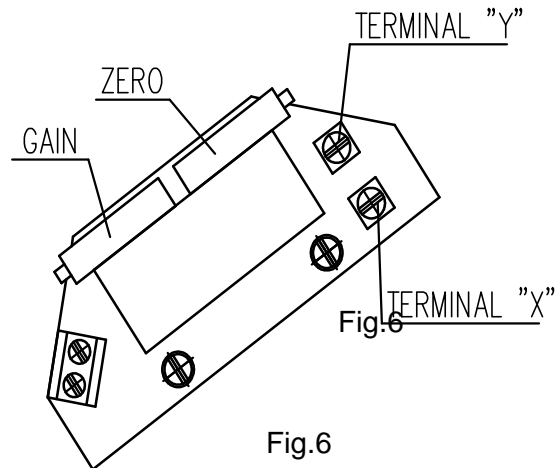

Fig.6
EPV – the 2-wire version (Fig. 6,6a)
- Adjust the resistive transmitter according to the previous chapter. The resistance is to be metered on the terminals X-Y (Fig. 6,6a). The used transmitter resistance is 100 Ω.
- Turn the adjusting trimmer ZERO (Fig. 6,6a) to adjust the output current signal rate measured on the terminals 81-82 to 4mA.
- Turn the adjusting trimmer GAIN (Fig. 6,6a) to adjust the output current signal rate measured on the terminals 81-82 to 20mA.